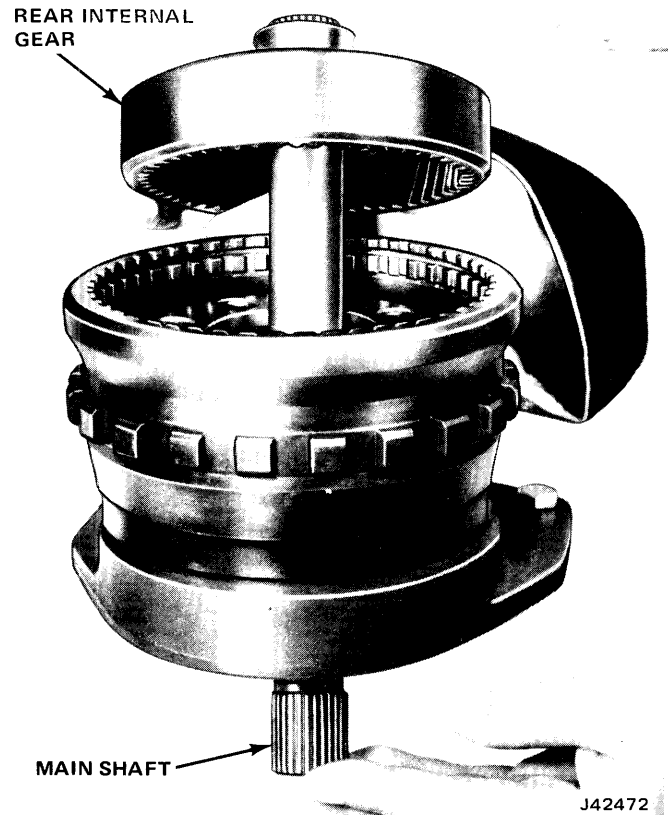

Fig. 7-43 Removing Rear Internal Gear and Main Shaft from Output Carrier
- (8) Turn output carrier over.
- (9) Remove snap ring retaining output shaft to output carrier.
- (10) Remove shaft from carrier.
- (11) Remove output shaft-to-rear internal gear thrust bearing and two races from rear internal gear and main shaft.
(12) Remove rear internal gear and main shaft from output carrier (fig. 7-43).
(13) Remove rear internal gear to sun gear thrust bearing and two races from main shaft.